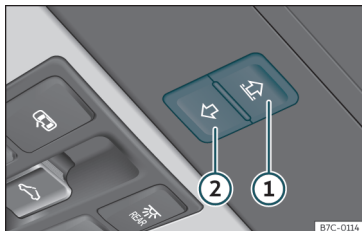

Fig. 118 On the interior roof lining: switches for the sun blind.
Buttons **>>> Fig. 118 (1)** and **(2)** have two levels. The first level opens or closes the sun blind fully or partially.
- *Sun blind*: within approximately 5 seconds of having activated the anti-trap function, press button >>> **Fig. 118**  until the sun blind closes completely.